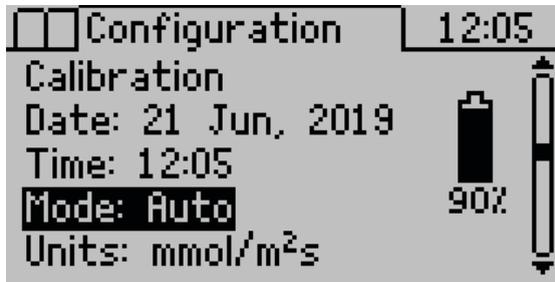

Figure 6 Toggle between Auto and Manual modes
2. Press **MENU** to navigate to the Configuration tab (Figure 6).
3. Use the **UP** and **DOWN** arrows to navigate to Mode (Figure 6).